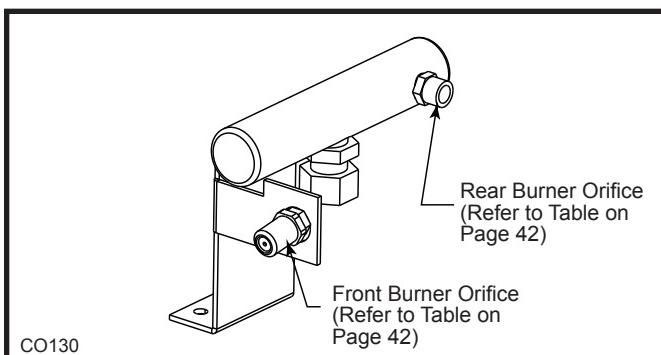

Fig. 78 Burner orifice replacement.
- Using a 1/2" open end wrench remove the orifices. (Fig. 78)
3. Using a 1/2" open end wrench remove the orifices. (Fig. 78)